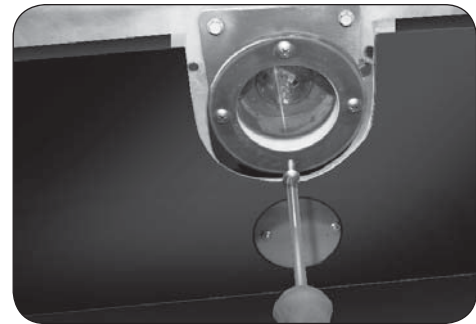

Fig. 50-2 Remove light assembly
2. Using a Phillips screwdriver, unfasten the 4 screws that hold the light assembly in place (see Fig. 50-2). Then remove the glass, housing plate, and gaskets. Set aside the glass and housing plate. Discard the old gaskets.